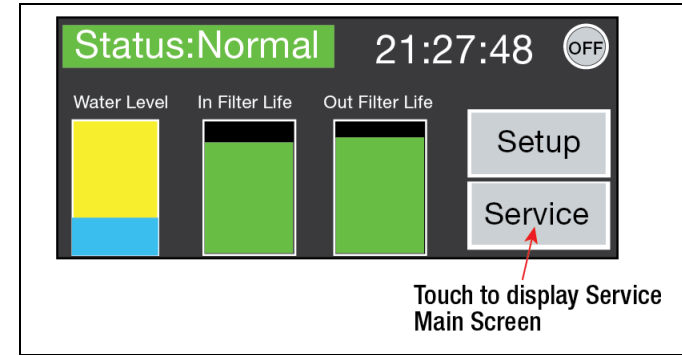

Figure 3.
15. At the Fuel Conditioning Controller front panel, touch the Service button to open the Service Home screen (see Figure 3).